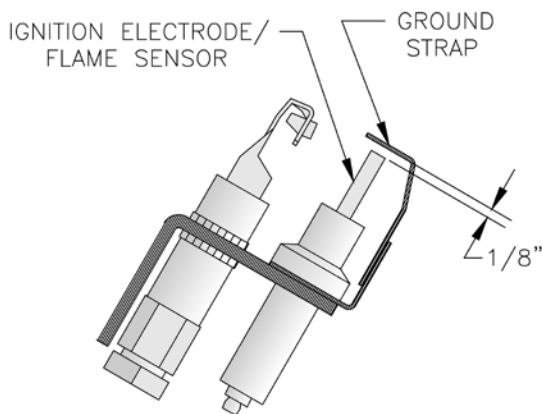

Figure 59: Honeywell Q348 Spark Gap
- G. Remove Pilot Assembly** for Servicing. Remove machine screw(s) holding pilot burner to pilot bracket, after first removing burner with pilot assembly as described in Step F, number 8 above. To adjust or check spark gap between electrode and hood on Honeywell Q348 intermittent (EI) pilot, see Figure 59.